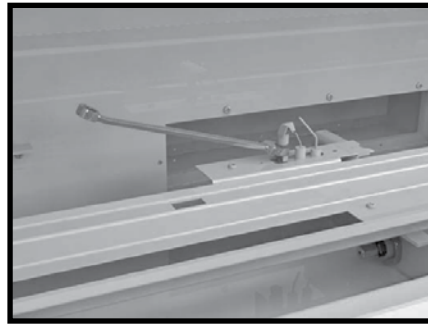

Figure 12: Loosening the pilot head.
6. With a 7/16" wrench loosen, but don't remove the pilot head on the pilot assembly (Figure 12).